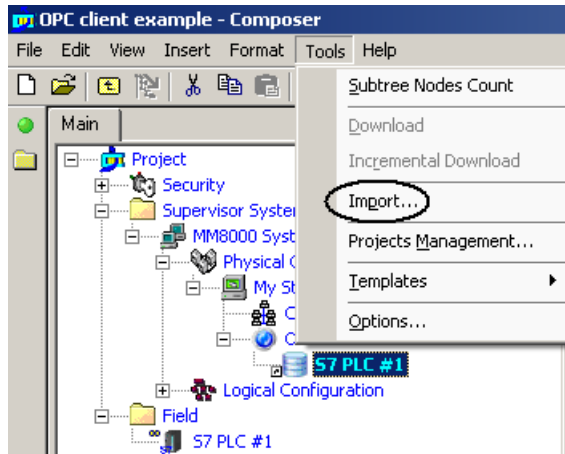

Fig 27 Start importing OPC items in CSV data
- Select the link node and then the menu: Tools → Import (Fig 27)